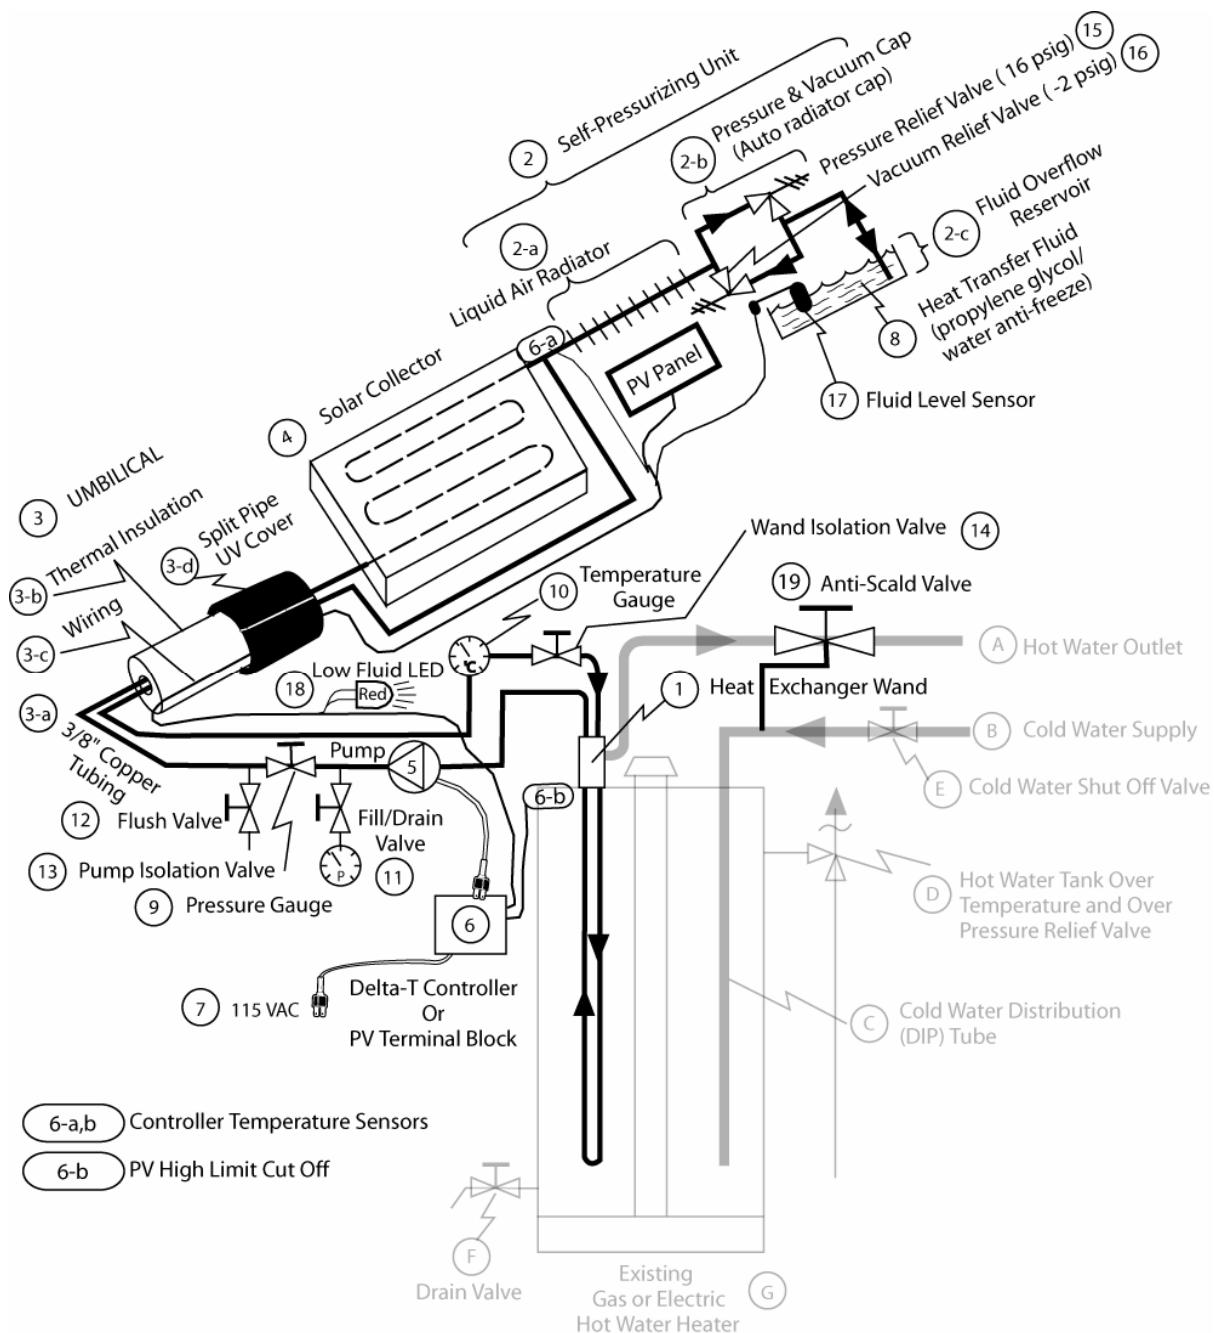

Figure 2.0 System Schematic Diagram
The complete system is shown in **Figure 2.0**. The parts that comprise the Solar Butler 1.0 system and need to be installed in your house are shown as dark in the line drawing. The parts that are already in your home are shown as light, or faded, in the line drawing. This allows the Solar Butler 1.0 system to be less complex. The interface between your existing hot water system and the Solar Butler 1.0 is the heat exchanger wand, (1), Patent No. US 6,837,303 B2 issued Jan 4, 2005.
The umbilical is composed of the two 3/8-inch diameter copper circulation tubes (3-a) in Figure 2.0, which are surrounded by closed-cell foam insulation (3-b) that is about 1.27 cm (1/2 inch) thick. Electrical wires from the roof to the water tank are placed on the outside of the insulation (3-c). For protection from the elements and ultraviolet light the entire ensemble is placed inside 2-inch diameter ABS pipe when it is outside or on the roof.